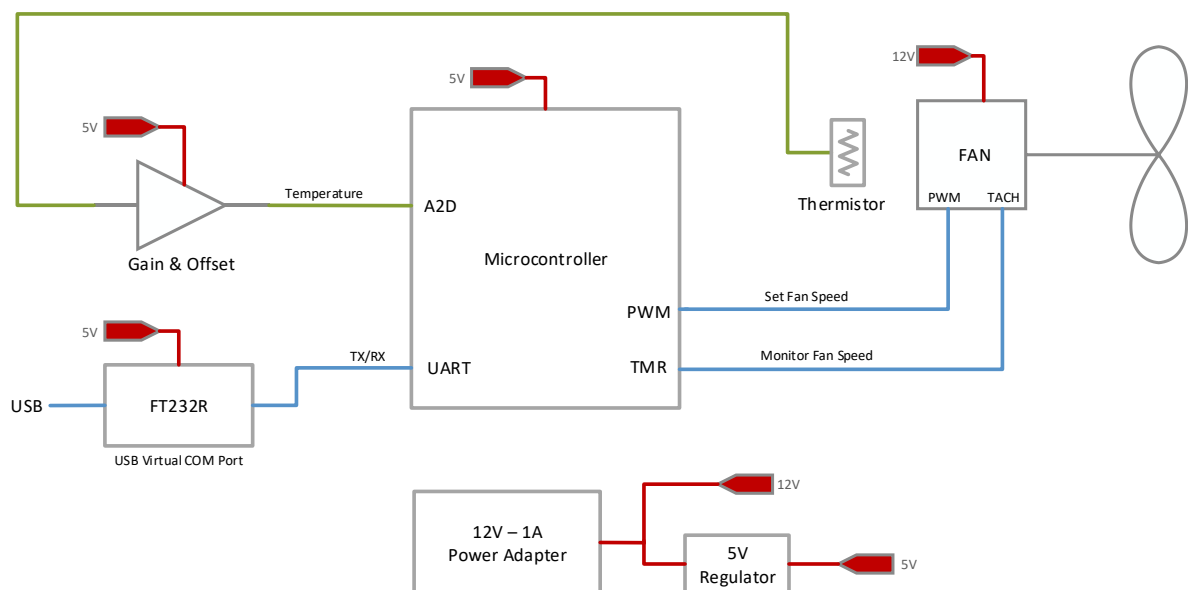

Figure 1: Example of Block Diagram for a Temperature Controlled Fan
- A block diagram showing the key parts of the design and their interrelationship (see Figure 1 below).